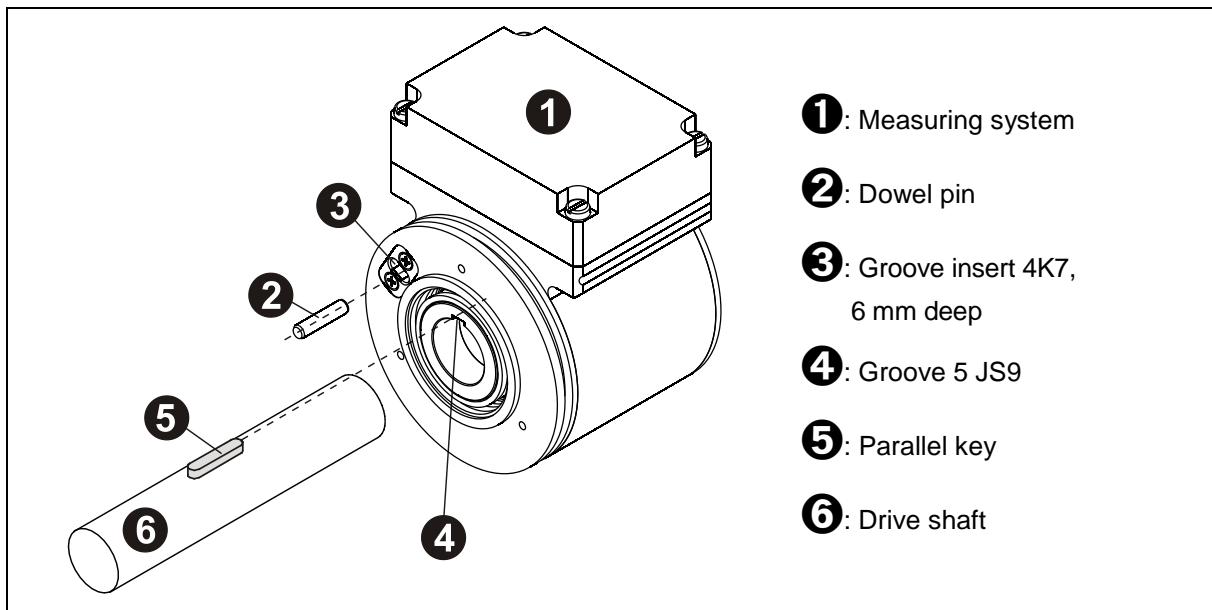

Figure 5: Form-locking
- A dowel pin is used to fix the measuring system on the drive end, see Figure 5.